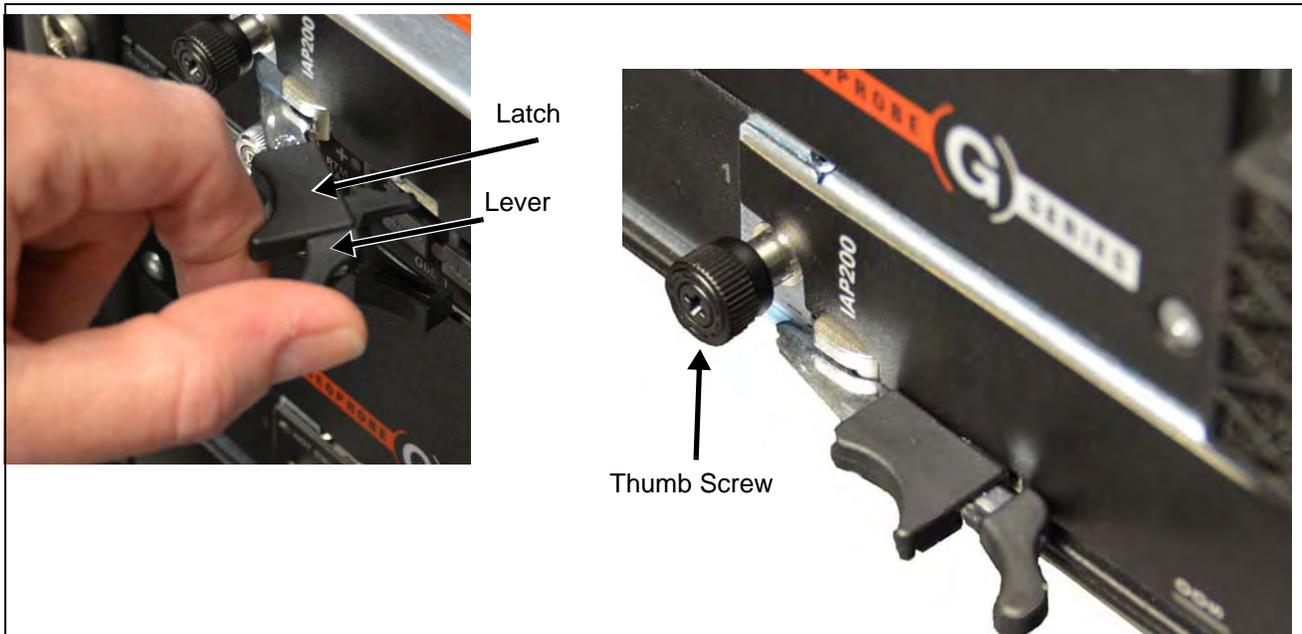

Figure 5.21 - IAP Insertion
4. While squeezing the handle's lever and latch together, close the left and right ejector handles until the inner sides of the ejector handles are attached to the faceplate (Figure 5.21).